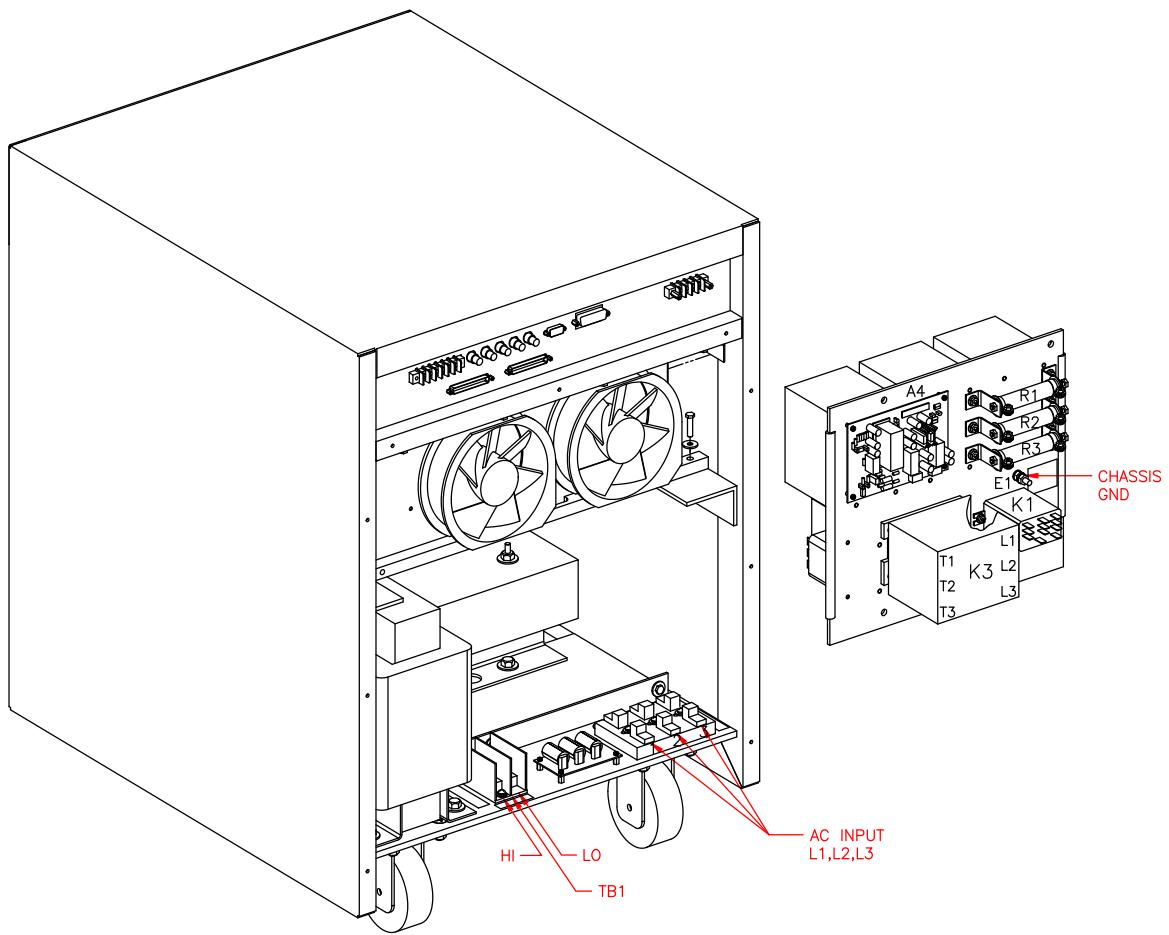

Figure 3-2: Location of AC Input Fuse Block and Chassis Ground Connection -
**CAUTION:** *Always disconnect any input power completely when removing any protective cover and allow the internal capacitors to fully discharge (minimum of 15 mins) before removing any cover. See Figure 3-2 for details.*
It is important to understand the purpose and operation of the On/Off circuit breaker of the MX15 located on the left side of the front panel. This is a 2A rated breaker that is used to engage and protect the LV Power supply of the MX15 chassis only. The LV Power supply provides DC bias power to the entire MX15 system. The AC input power is routed through a set of three AC line fuses (F1, F2 and F3) located in the lower right bottom corner of the MX15. (See Figure 3-2 for fuse locations). These fuses protect the MX amplifier and the AC input transformer from excessive input currents. The AC input power is connected to the input transformer through a large three-pole contactor. Removing AC power to the LV Power Supply by opening the front panel circuit breaker (moving the lever to the down (OFF) position) will cause this contactor to lose its coil voltage and will result in it opening and disconnecting the input transformer and amplifier from AC mains input.
The output terminal block, TB1, is located at the back of the unit behind the bottom access panel. See Figure 3-2 for details.
Terminal 2 of TB1 provides the output LO connection, and terminal 1 of TB1 provides the output HI connection. The location of TB1 is shown in Figure 3-2.